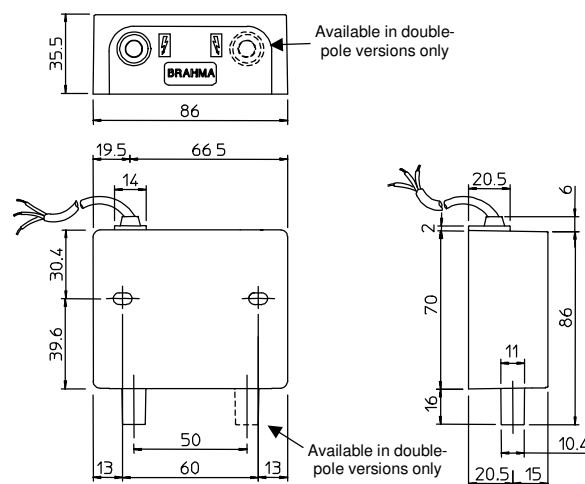
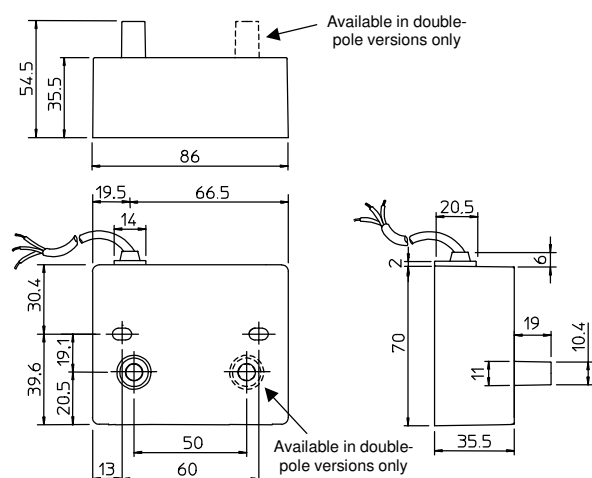
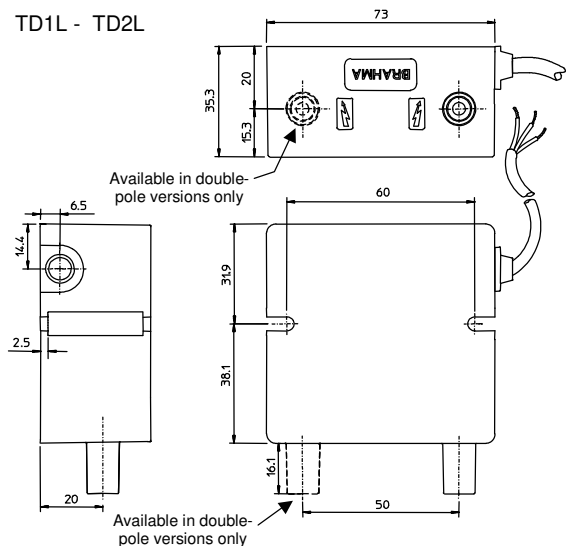
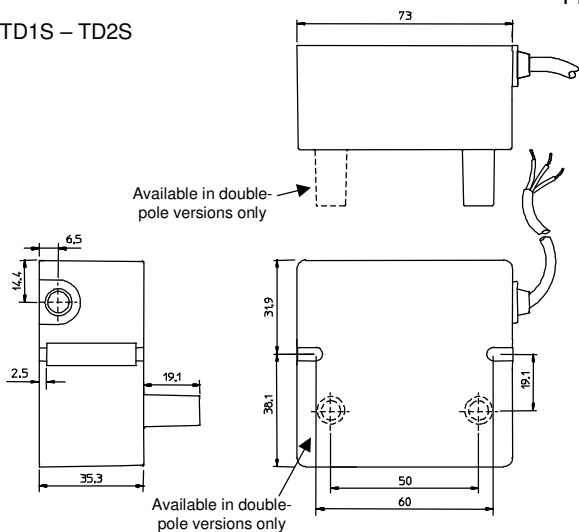

Fig. 1
Fig. 2
Fig. 3
Fig. 4
- C: supplied with cable (Fig. 1, 2, 3 and 4);
- L: lateral isolators (Fig. 1 and 3);
S: bottom isolators (Fig. 2 and 4);
The TD series differs from the TC series for its more reduced overall dimensions; Fig. 1, Fig. 2, Fig. 3 and Fig. 4 show the main dimensions of both transformer series.